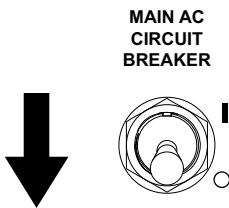

Figure 3-21. Main AC Circuit Breaker OFF (O)
3. See Figure 3-21. Switch main AC circuit breaker to OFF (O).